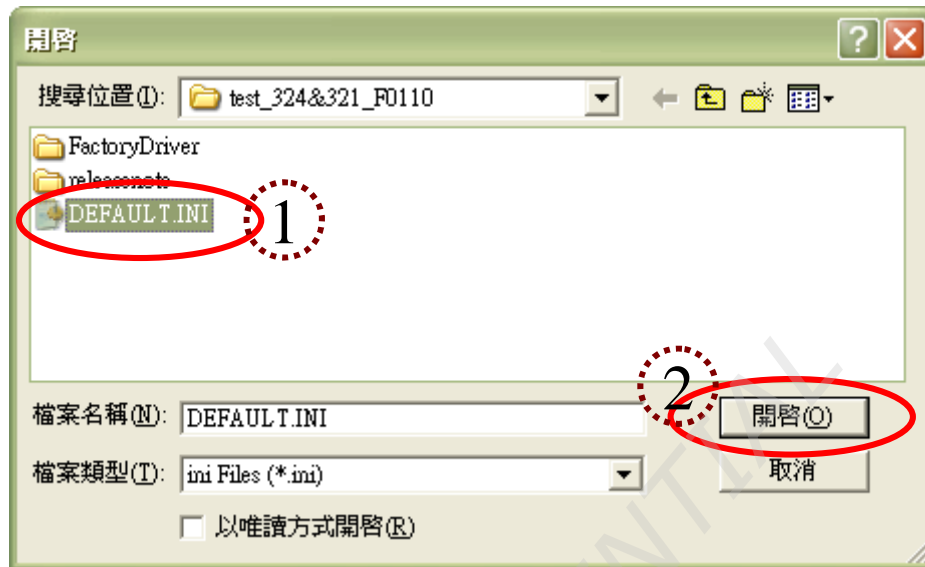

Fig. 3 Loading the INI file for 「Setting Function」 .
- Loading the INI File:(see the Fig. 3)